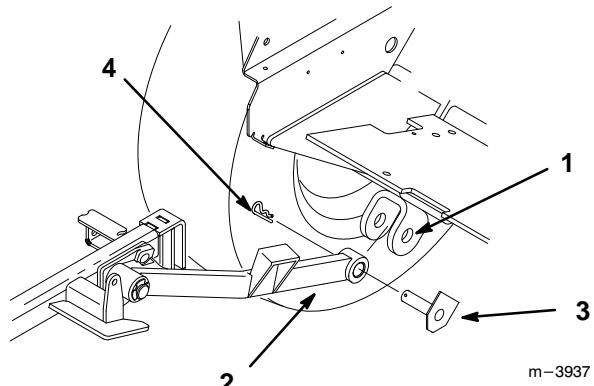

Figure 2
1. Position carrier frame in front of traction unit and place push arms into clevises (Fig. 2).
2. Retain push arms with pivot pin assemblies, aligned with flat against frame, and secure with hairpin cotter (Fig. 2).